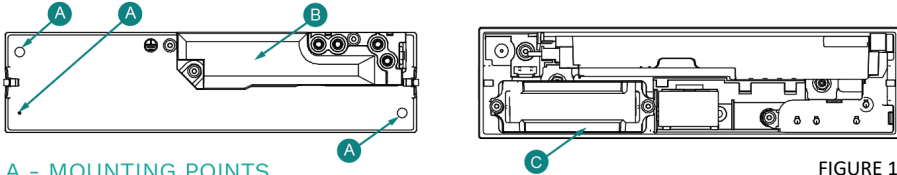

FIGURE 1
- Mark and install Mounting Plate using Mounting Points (see Figure 1).